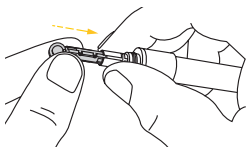

Figure 22
**STEP 2:** Insert a Sterile Lancet into the Lancing Device. Insert the lancet into the lancet holder and push down firmly until it is fully seated. Do not twist the lancet. See Figure 22.